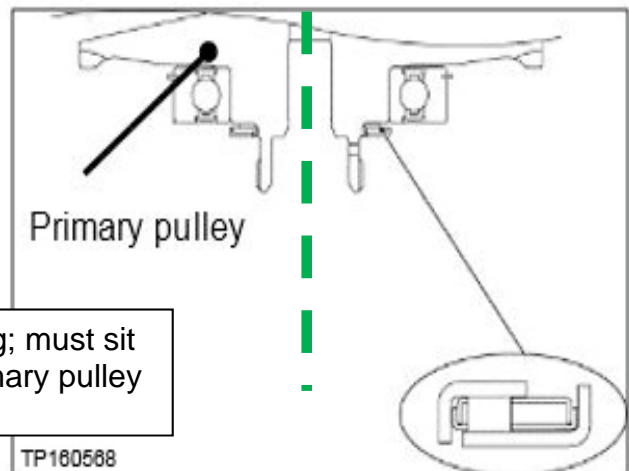

Figure 92
- The thrust bearing has two sides. Reference Figure 92 for bearing orientation.